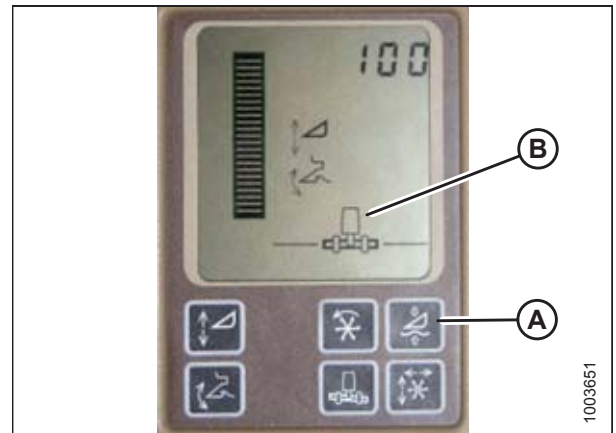

Figure 3.389: John Deere Combine Display
Do **NOT** use the active header float function (A) in combination with the MacDon auto header height control (AHHC)—the two systems will counteract one another. The header symbol (B) on the display should **NOT** have a wavy line under it and should appear exactly as shown on the Active Header Control Display in Figure 3.389, page 257.